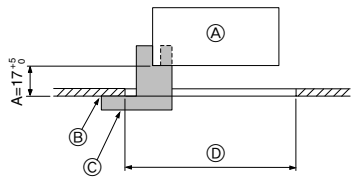

Fig. 5-2
5.2. Preparing to attach the grille (Fig. 5-2)
- With the gauge ③ supplied with this kit, adjust and check the positioning of the unit relative to the ceiling. If the unit is not properly positioned relative to the ceiling, it may allow air leaks or cause condensation to collect.
- ① Main unit
- ② Ceiling
- ③ Gauge ③ (inserted into the unit)
- ④ Ceiling opening dimensions